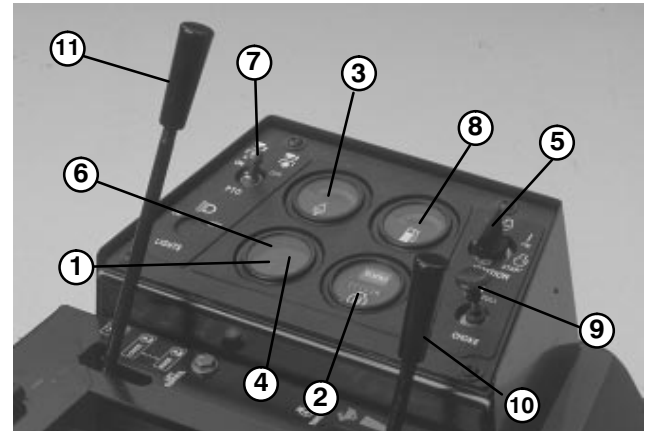

Figure 15
Amp Light (Fig. 15) — The amp light should be off when engine is running. If it is on, the charging system should be checked and repaired if necessary.
Hour Meter (Fig. 15) — Accumulated engine operating time registers on the hour meter.
Temperature Gauge and High Temperature Light (Fig. 15) — The coolant temperature gauge registers the coolant temperature in the system. If the temperature gets too high the engine will automatically shut off and the High Temperature Shutoff Light will light. When this happens, turn the ignition key off, check radiator for debris, check the fan belt and check the expansion tank for proper coolant level. The high temperature shutoff will automatically reset when the coolant temperature has reached a safe level.
Low Oil Pressure Light (Fig. 15) — If engine oil pressure falls below a safe level, the light glows. Stop engine and repair before resuming operation.
PTO Switch (Fig. 15) — Pull up on sleeve on toggle switch handle and move handle to ON to ENGAGE electric PTO clutch. Pull up on sleeve and move handle to OFF to DISENGAGE electric PTO clutch. The only time the PTO switch should be in the ENGAGE position is when the implement is down in operating position and ready to begin operation.
Ignition Key Switch (Fig. 15) — The ignition switch, which is used to start and stop the engine, has three positions: OFF, RUN and START. Rotate key clockwise — START position — to engage starter motor. Release key when engine starts. The key will move automatically to the ON position. To shut engine off, rotate key counterclockwise to the OFF position.
Choke (Fig. 15) — To start engine, close carburetor choke by pulling choke control upward. After engine starts, regulate choke to keep engine running smoothly. As soon as possible, open the choke by pushing it inward. A warm engine requires little or no choking.
Throttle (Fig. 15) — Throttle is used to operate engine at various speeds. Moving throttle forward increases engine speed — FAST; rearward decreases engine speed — SLOW. The throttle controls the speed of the cutter blades and, in conjunction with traction pedal, controls ground speed of the traction unit.
Hydraulic Lift Lever (Fig. 15) — The hydraulic lift lever has three positions: FLOAT, TRANSPORT and RAISE. To lower cutting unit to the ground, move lift lever forward into notch in seat platform — FLOAT. The FLOAT position is used for mowing and when machine is not in operation. To raise cutting unit, pull lift lever rearward to the RAISE position. After cutting unit is raised, allow lift lever to move to the TRANSPORT position. Cutting unit must be raised when driving from one work area to another.
1. Ensure parking brake is set, PTO switch is in OFF position and lift lever is in TRANSPORT or FLOAT position (Fig. 15). Remove foot from traction pedal and insure it is in neutral.
2. Pull choke (Fig. 15) to full choke position and move throttle control (Fig. 15) to slow position.
3. Turn key in ignition switch to START position (Fig. 15). Release key immediately when engine starts and allow it to return to RUN position. Regulate choke to keep engine running smoothly.